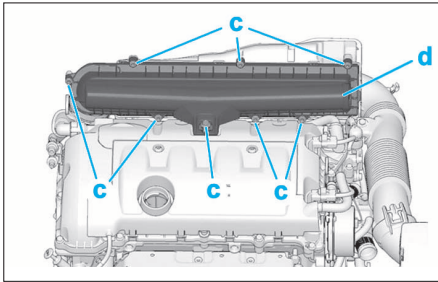

FIG. 33A
- Déposer les fixation (c) (Fig.33A)